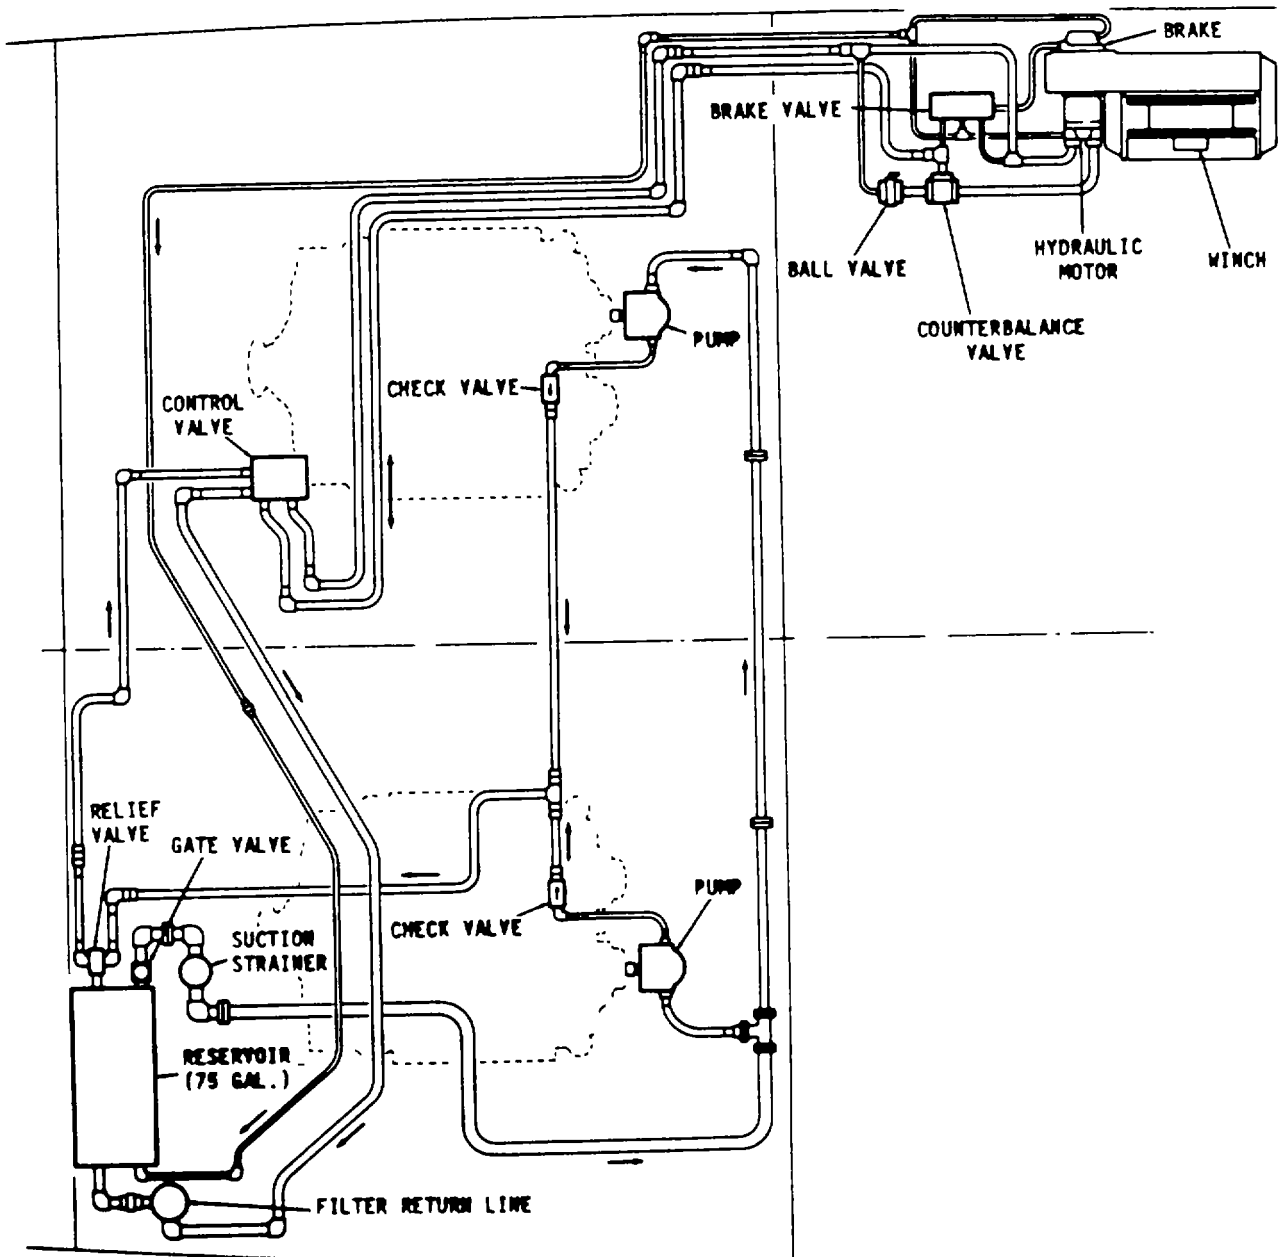

Figure 5-1. Ramp Hoist Hydraulic System Diagram.
b. Winches are powered by hydraulic motors. Other system components include a four-way control valve, counterbalance valve, two engine-driven pumps, two check valves, suction line strainers, and return line filters. See figure 5-1.